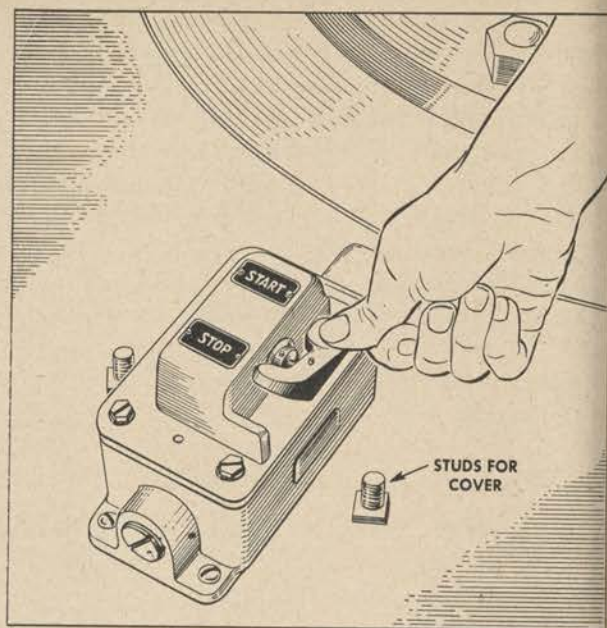

Figure 84. Operating capstan push button station.
c. **OPERATING CAPSTAN FROM DECK.** (1) *Operating lever.* Throw the operating lever on the combination starter enclosure to the ON position.
(2) *Push button station.* Push the START button located under the enclosure, to start the capstan; push the STOP button to stop the capstan. (See fig. 84.)